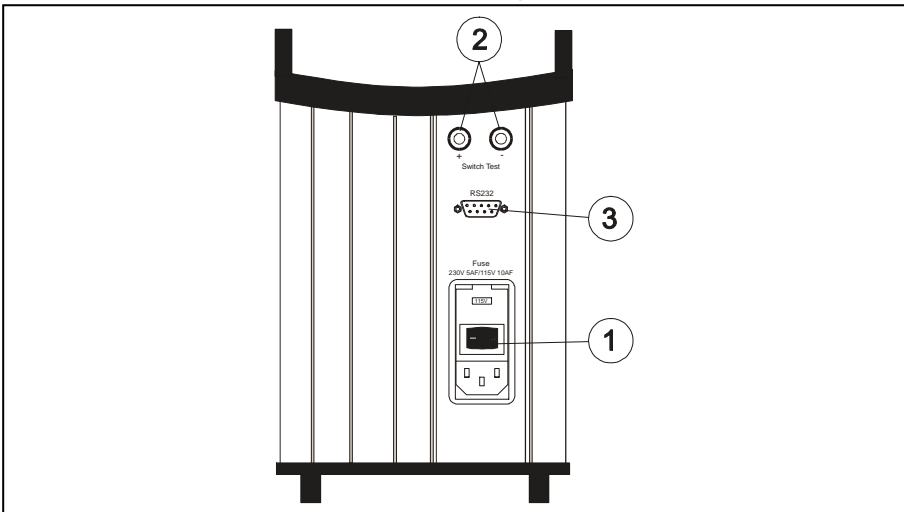

Fig. 8
Switch the calibrator on using the power control switch (pos. 1 in Fig. 8).